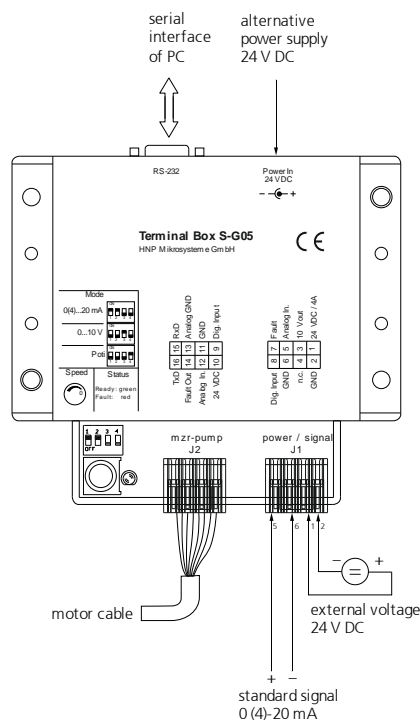

figure 23
17. Connect the external current source to the screw clamps »AnalogIn« and »GND« to the S-G05. (see figure 23).